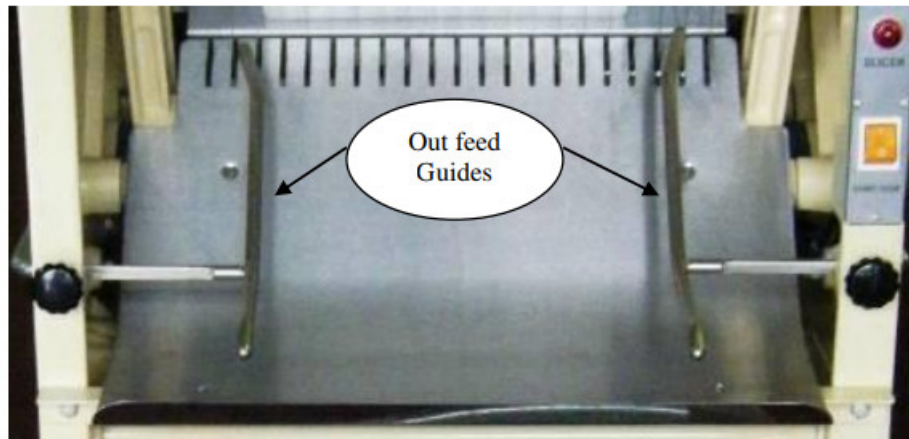

Fig 3.3
- Adjust the out feed guides to guide the loaf once it has been sliced. Fig 3.3